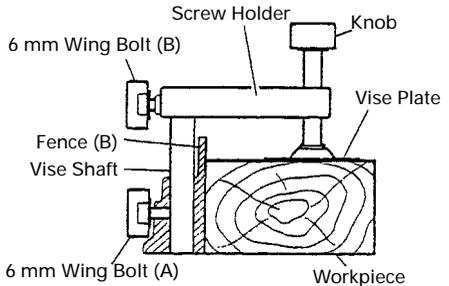

Fig. 6
4. **Using the Vise Assembly (Standard accessory) (Fig. 6)**